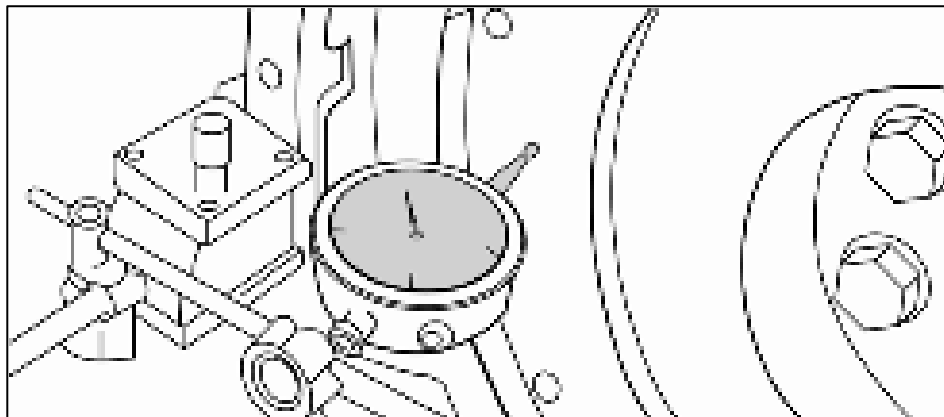

Fig. C5.10 Inspection of Flywheel Run-Out
5.5 Flywheel Run-Out (Refer Fig. C5.10)